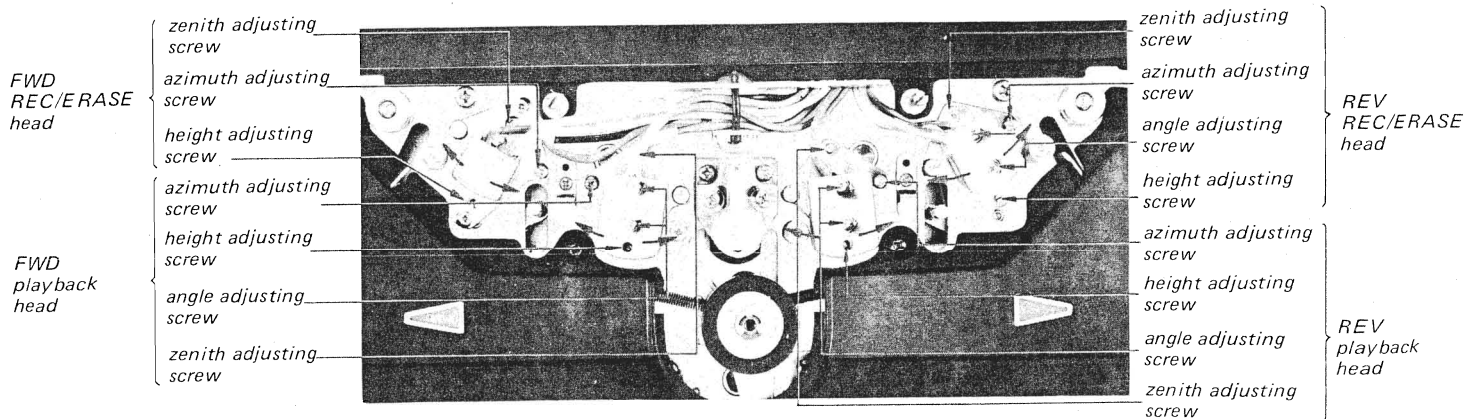

Fig. 3-26. Adjusting parts location (1)
| <p>6. Playback Head Azimuth and Angle Adjustment</p> | <p>Test Setup:</p>  <p>Switch Setting: MONITOR switch TAPE</p> <p>Specification: Screw position where the maximum output is obtained.</p> <p>Notes: (1) Before the adjustment, make sure that the head comes in contact with the tape normally in forward mode.</p> | <p>(1) Play back the SONY alignment tape J-19-A2 (12.5 kHz).</p> <p>(2) Adjust the playback head azimuth adjusting screw for the maximum output on the VTVM.</p> <p>Note: If the maximum value for both channels can not be obtained at the same angle of the screw, take the mid between the two angles and make sure that the difference between the output obtained by turning the screw from the maximum output position and the each maximum output is within 0.5 dB.</p> <p>(3) Loosen the playback head angle adjusting screws.</p> <p>(4) Slightly, hold the supply reel table by the hand.</p> <p>(5) Adjust by moving the playback head in the direction shown by the arrows (See Fig. 3-26) so that the level fluctuation is the least at the maximum output and the playback output does not increase more than 0.5 dB.</p> <p>(6) Repeat the above steps (1) and (2).</p> <p>(7) Apply lock paint to the azimuth and angle adjusting screws.</p>  |
| Record Head Azimuth and Angle Adjustment | Specification: *Screw position where the maximum output is obtained. | (4) Slightly, hold the supply reel table by the hand. (5) Make sure that the playback output does not increase more than 3 dB. If not, adjust by moving the record head in the direction shown by the arrows (See Fig. 3-26) so that the level fluctuation is the least at the maximum output. (6) Apply lock paint to the azimuth and angle adjusting screws.  |